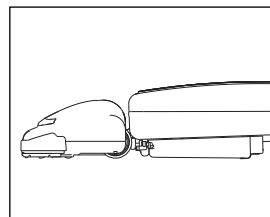

Fig. 6
2. Continue to lower the handle to enable the vacuum to lay flat on the floor (Fig. 6).